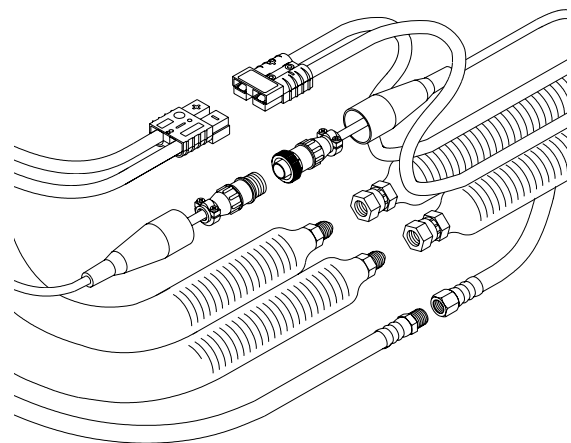

Figure 10. Hose Connection Step (a)
- a) Lay out the hose assemblies end-to-end as shown (see Figure 10).